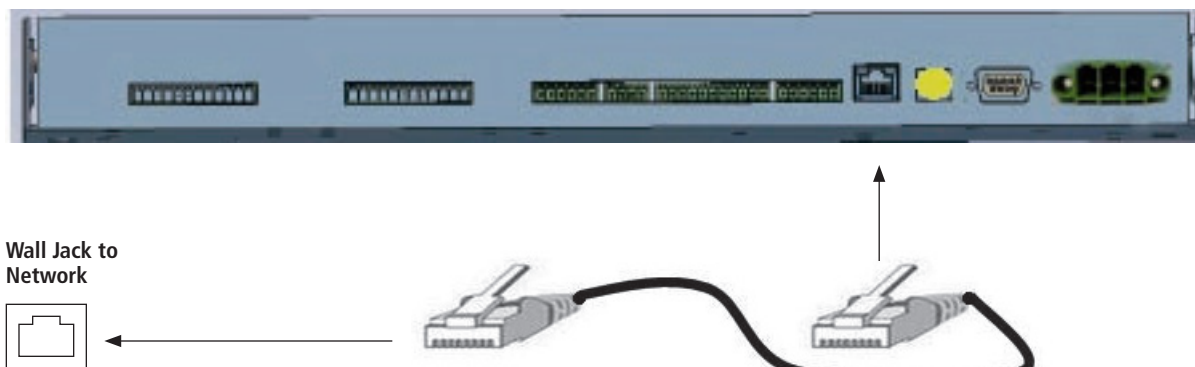

Fig 1.1
- 1) Connect a patch cable to the RJ45 port on the SMA Master Clock as shown in Fig 1.1.